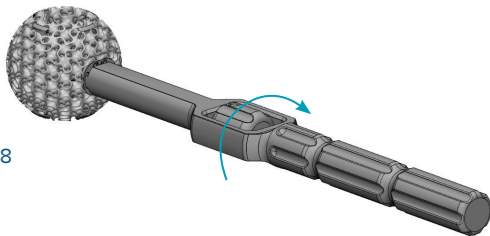

Fig. 18
18. The inserter may be threaded into the Ossera™ AFX to aid in removal by turning the thumbscrew clockwise (fig. 18).